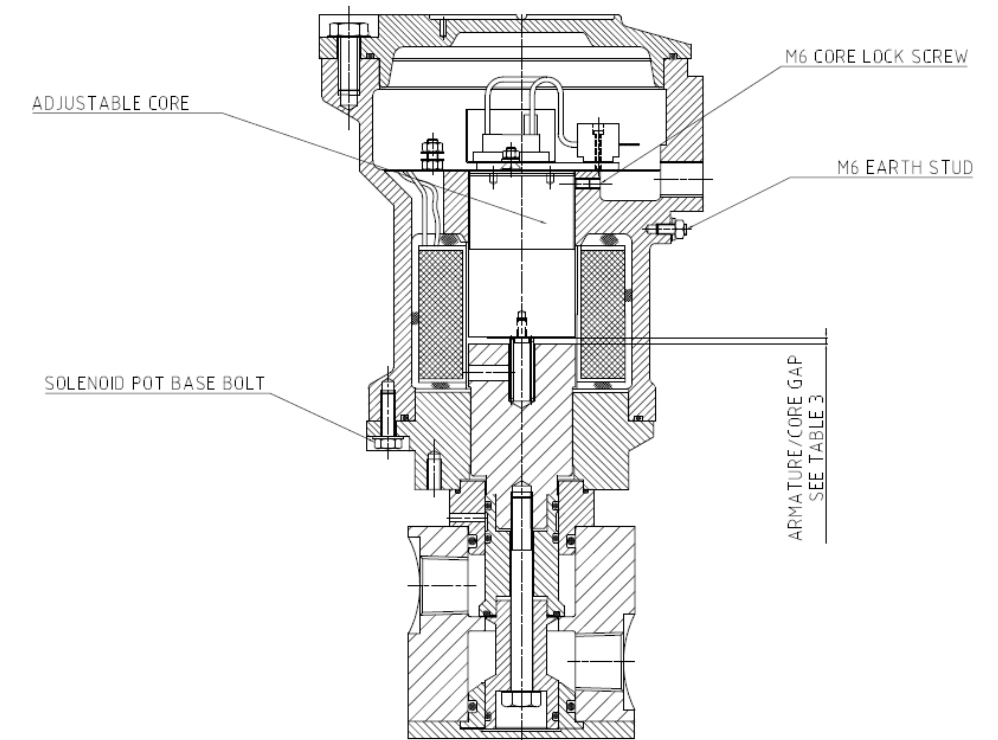

Figure 3 – Typical SOV Showing Solenoid Assembly
- Remove M6 core set screw (see Figure 3).